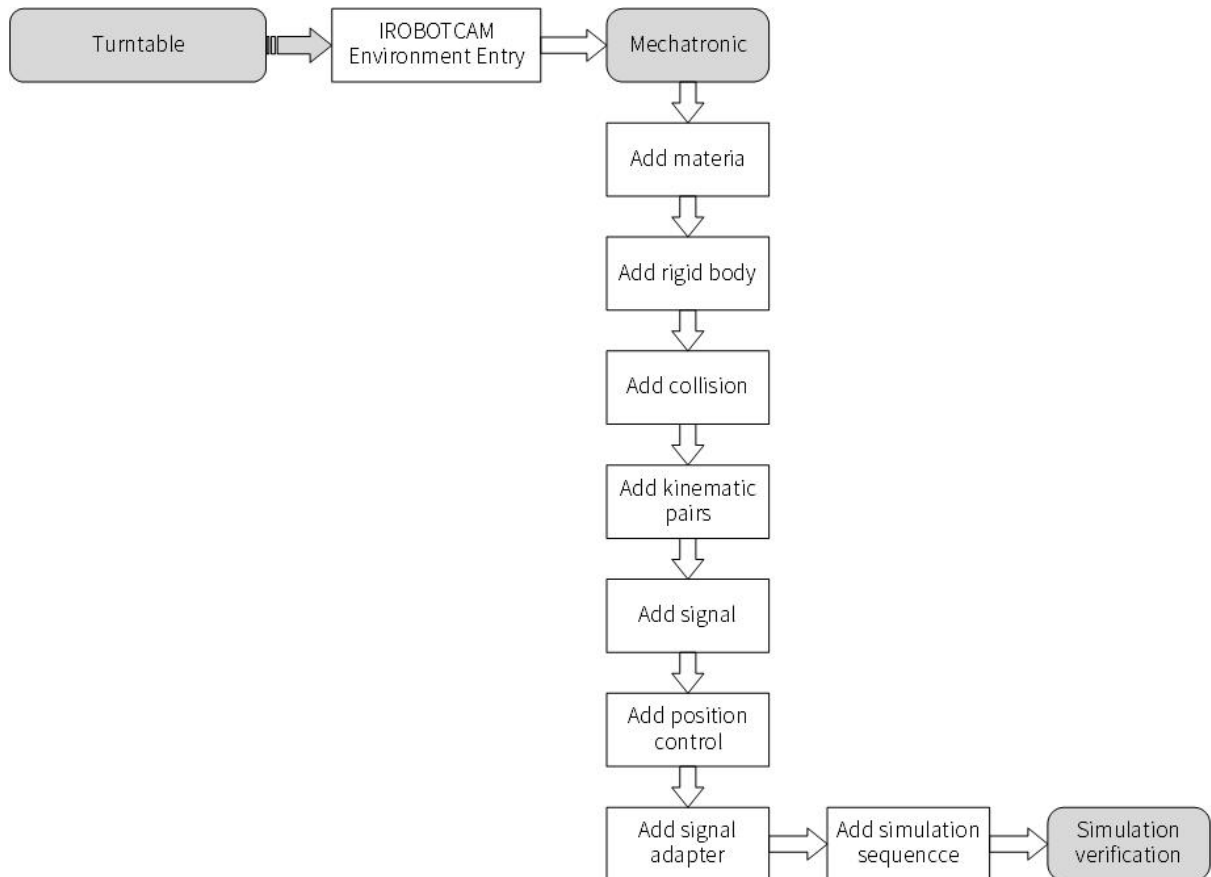

Figure 13-1: Flow chart of collision detection
- This document presents a comprehensive guide for constructing a functional turntable model in IROBOTCAM, encompassing various elements and functionalities.(Figure 13-1)